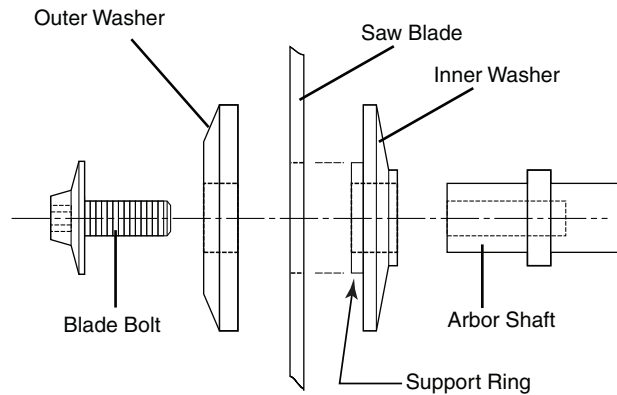

Figure 5. Blade Hardware
1. Press and hold the arbor lock (red button on opposite side of upper guard – item 42, page 12). Rotate the blade slowly while pressing the arbor lock until it fully seats into its lock position.
3. Remove the blade bolt and outer washer. Carefully grab the blade. Slide the blade away from the inner washer and off the arbor shaft, then down and away from the saw. Leave the inner washer on the arbor shaft (see Figure 5).